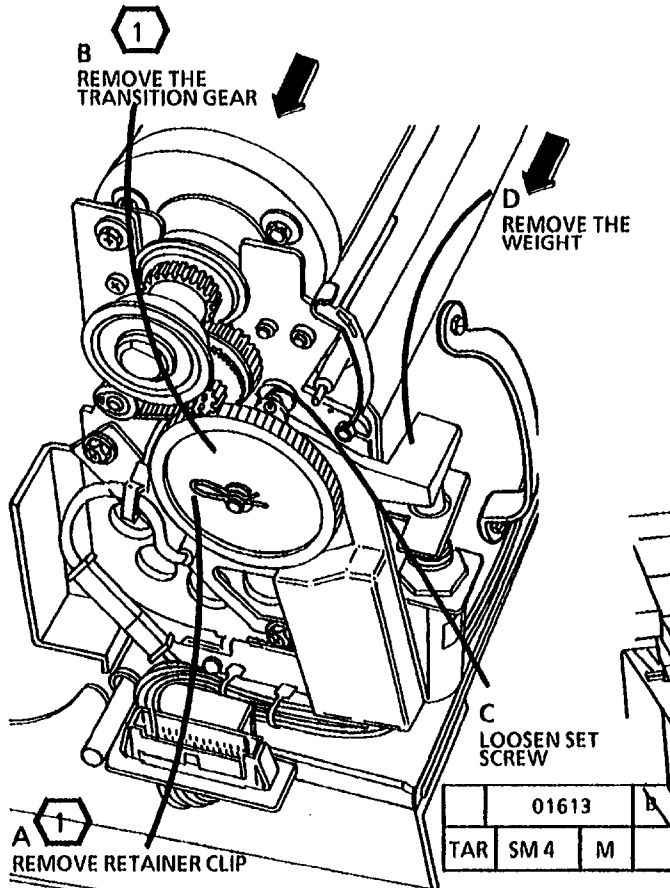

Figure 1. Remove the Transition Gear and Weight
4. (Figure 1): Remove Transition Gear and Weight.